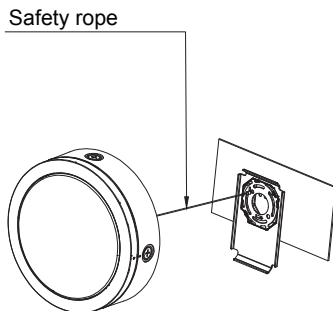
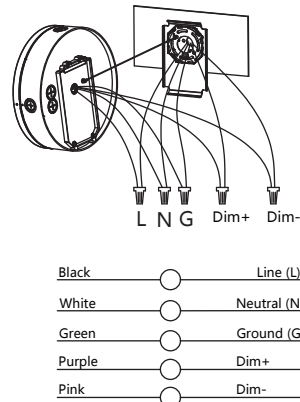

Fig.3
Fig.4
3. One end of the safety rope is fixed to the mounting bracket. (Fig. 3) 4. Connect the light input wire. (Fig 4)